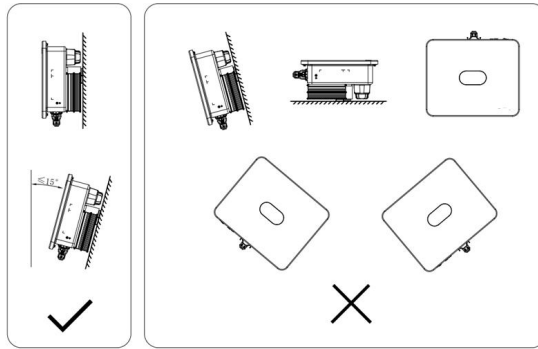

Fig. 4.6 Installation Location of Inverter
(4) The mounting surface should be upright (see Fig. 4.6). Install the inverter vertically or at a backward tilt of $\leq 15^\circ$ so as to facilitate heat dissipation. Forward tilt, horizontal installation, upside-down installation, backward tilt of $> 15^\circ$ and sideways tilt are not allowed.